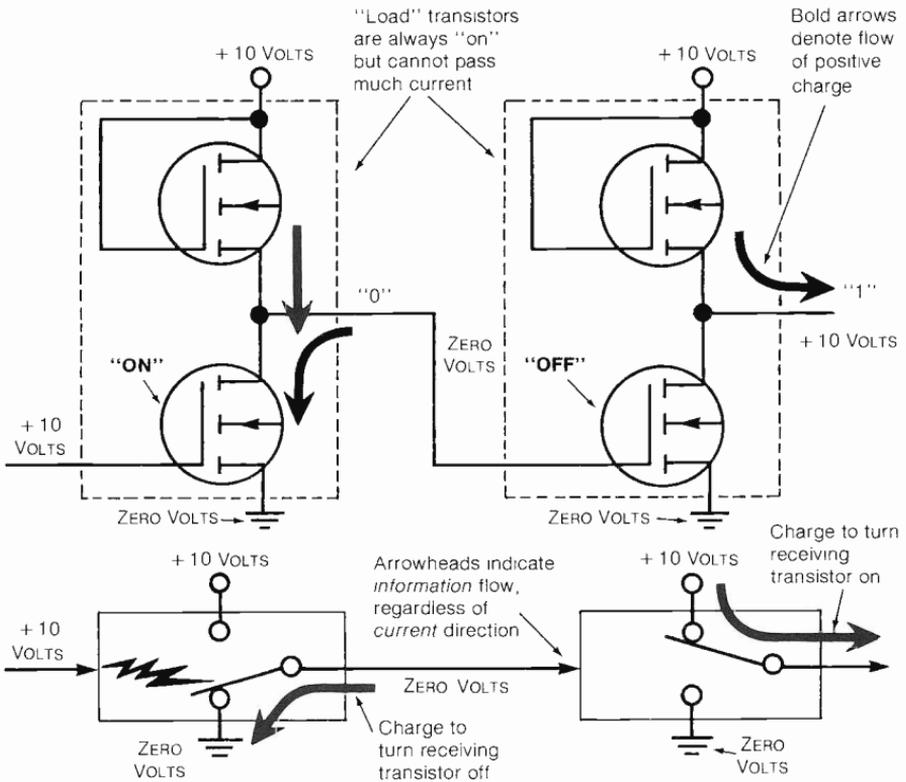
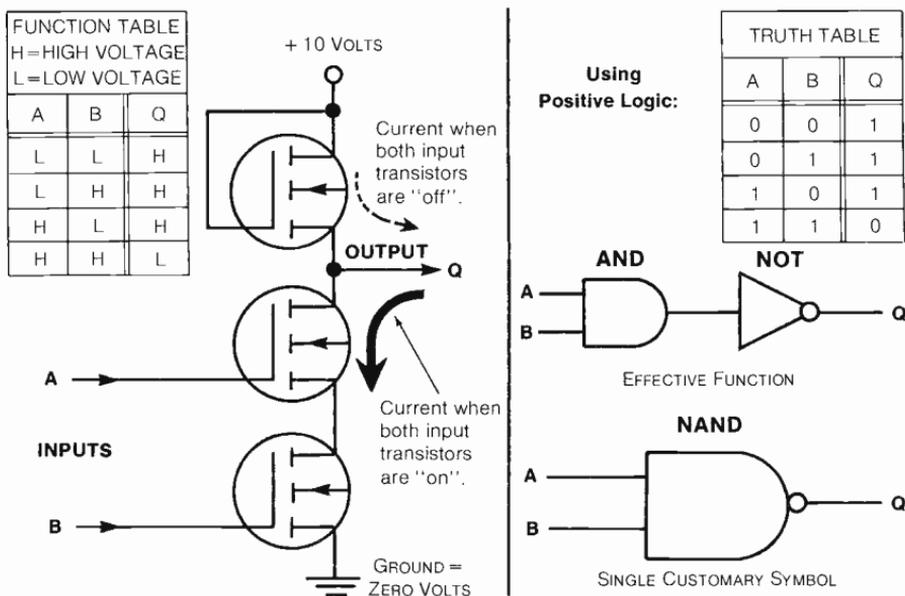

Figure 2-14. Schematic diagrams and "switch" picture of two MOS "inverter" circuits
Figure 2-16. MOS two-input positive NAND gate (left) and symbols for NAND function
Figure 2-14 shows two MOS inverters in the two upper boxes, with the output of the first (left) providing the input for the second. The two boxes below give you a mental picture of what these inverters do, in terms of electrically-controlled switches. When an inverter input is at ten volts as shown on the left below, the output is connected to a "ground" terminal at zero volts. (The meaning of "ground" was explained back in Figure 2-5, although we didn't mention it in the text.) And when an inverter input is at zero volts as shown on the right, the output is connected to the "power supply" terminal above at ten volts.
The second point illustrated in the lower part of *Figure 2-14* is that an MOS switching circuit must not only be able to *supply* electricity through its output for the “on” state, but it must also be able to *drain electricity back into the output* for the “off” state. This is so the output can *turn off* an MOS transistor in the receiving circuit, as we have already learned in studying how an MOS transistor is turned off. This requirement of “two-way” output current applies not only to the inverter circuits in *Figure 2-14*, but to *all* MOS gates, which as we will see are constructed very much alike. In fact, it applies to *all electronic digital circuits*. Current must be able to move both ways in all signal wires.
Incidentally, even though electricity sometimes flows *into* an output of digital circuits, the thing that always flows *out* of an output is *information*. The small arrowheads on the signal lines in the diagram below in *Figure 2-14* represent information, not current.
Referring now to the schematic inverter circuits above in *Figure 2-14*, we can see how a 10-volt input signal turns on the lower transistor, connecting the output to the zero-volt ground as we desire. As for the *upper* transistor in each inverter (called the “load” transistor) – it is a *very specially-made* transistor with a comparatively long and narrow channel between the two n-type terminals. It is always kept “on” by having its control terminal connected to the 10-volt power supply. But it can’t supply very *much* current – it chokes back most of the current like the electrical devices we call “resistors”.
Figure 2-16 shows one of these other gate circuits. The schematic diagram at the left shows that this circuit consists essentially of an inverter (as in Figure 2-14) with not one but *two* input transistors in series. The bold arrow shows how the output is connected to ground only when both input transistors are "on". (Obviously, we could include more than two input transistors here if we need more than two inputs.) So the output can only be in the low-voltage state when all the input transistors are "on" – that is, when all the inputs are in the high-voltage state. Otherwise, if any one or more inputs are in the low-voltage state, the output is high-voltage.
The action of this gate is shown in the function table left of the circuit in *Figure 2-16*, using “H” for the high voltage or more positive state (ten volts, we said earlier) and “L” for the low-voltage, more negative state (zero volts, or ground). These symbols are typical of function tables for all “real” electronic digital circuits (not just MOS circuits). We can’t use “on” and “off” because the outputs are *always* on, in a sense – being connected either to the ground or to the power supply. What distinguishes one electrical state from the other is really the *voltage* in a wire. So “high” (H) and “low” (L) mean the same thing in *real* digital circuits as “on” and “off” did in the imaginary “electrically-controlled-switch” circuits that we have found so useful as a learning device.
Anyway – if we use positive logic and replace each “H” in the function table with a 1 and replace each “L” with a 0, we get the truth table shown at the right in *Figure 2-16*. This particular digital function is called “NAND” because the output is just the *inverse* of that for an AND gate. NAND stands for “NOT-AND”. This truth table can be represented symbolically by an AND gate followed by an inverter as shown in the figure. The single customary symbol is a combination of the two symbols – it’s an AND symbol with a little circle at the output to signify the AND function is inverted. Since the “real” circuit at the left performs the NAND function when using positive logic, it’s a *positive* NAND gate.